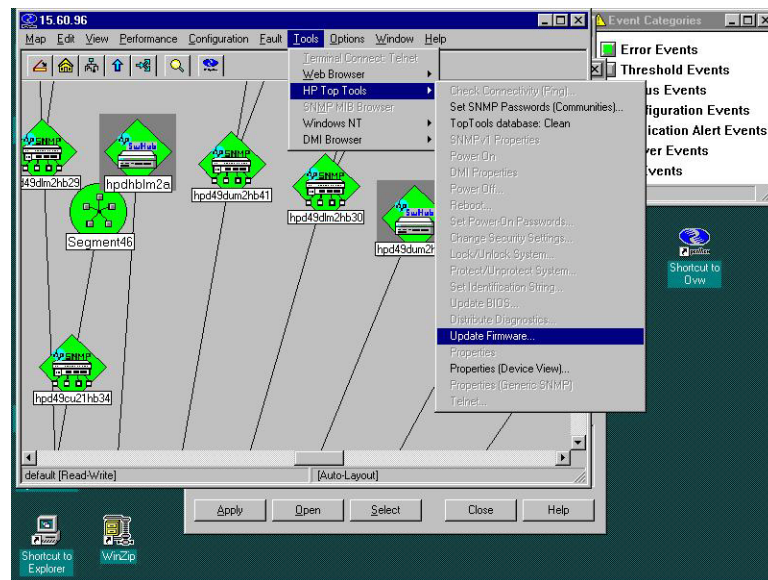

Figure 5-31. Multiple hubs can have their firmware updated simultaneously.
**Update Firmware** (Figure 5-31) is supported by selected models. Some older models require an HP Toptools 5.6 for OpenView NNM-NT/WINDOWS 2000 single system installation.